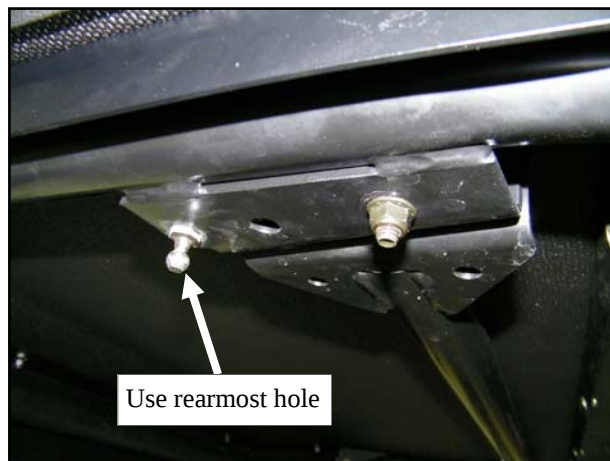

Fig. 8.1 (view of ball stud, passenger's side)
8.1 Install two ball studs to the OPS (one on each side) as shown in figure 8.1.
8.5 Install the gas spring after the door is fully adjusted. Attach the large end to the ball stud installed in figure 8.1. The thin rod end should be attached to the door.